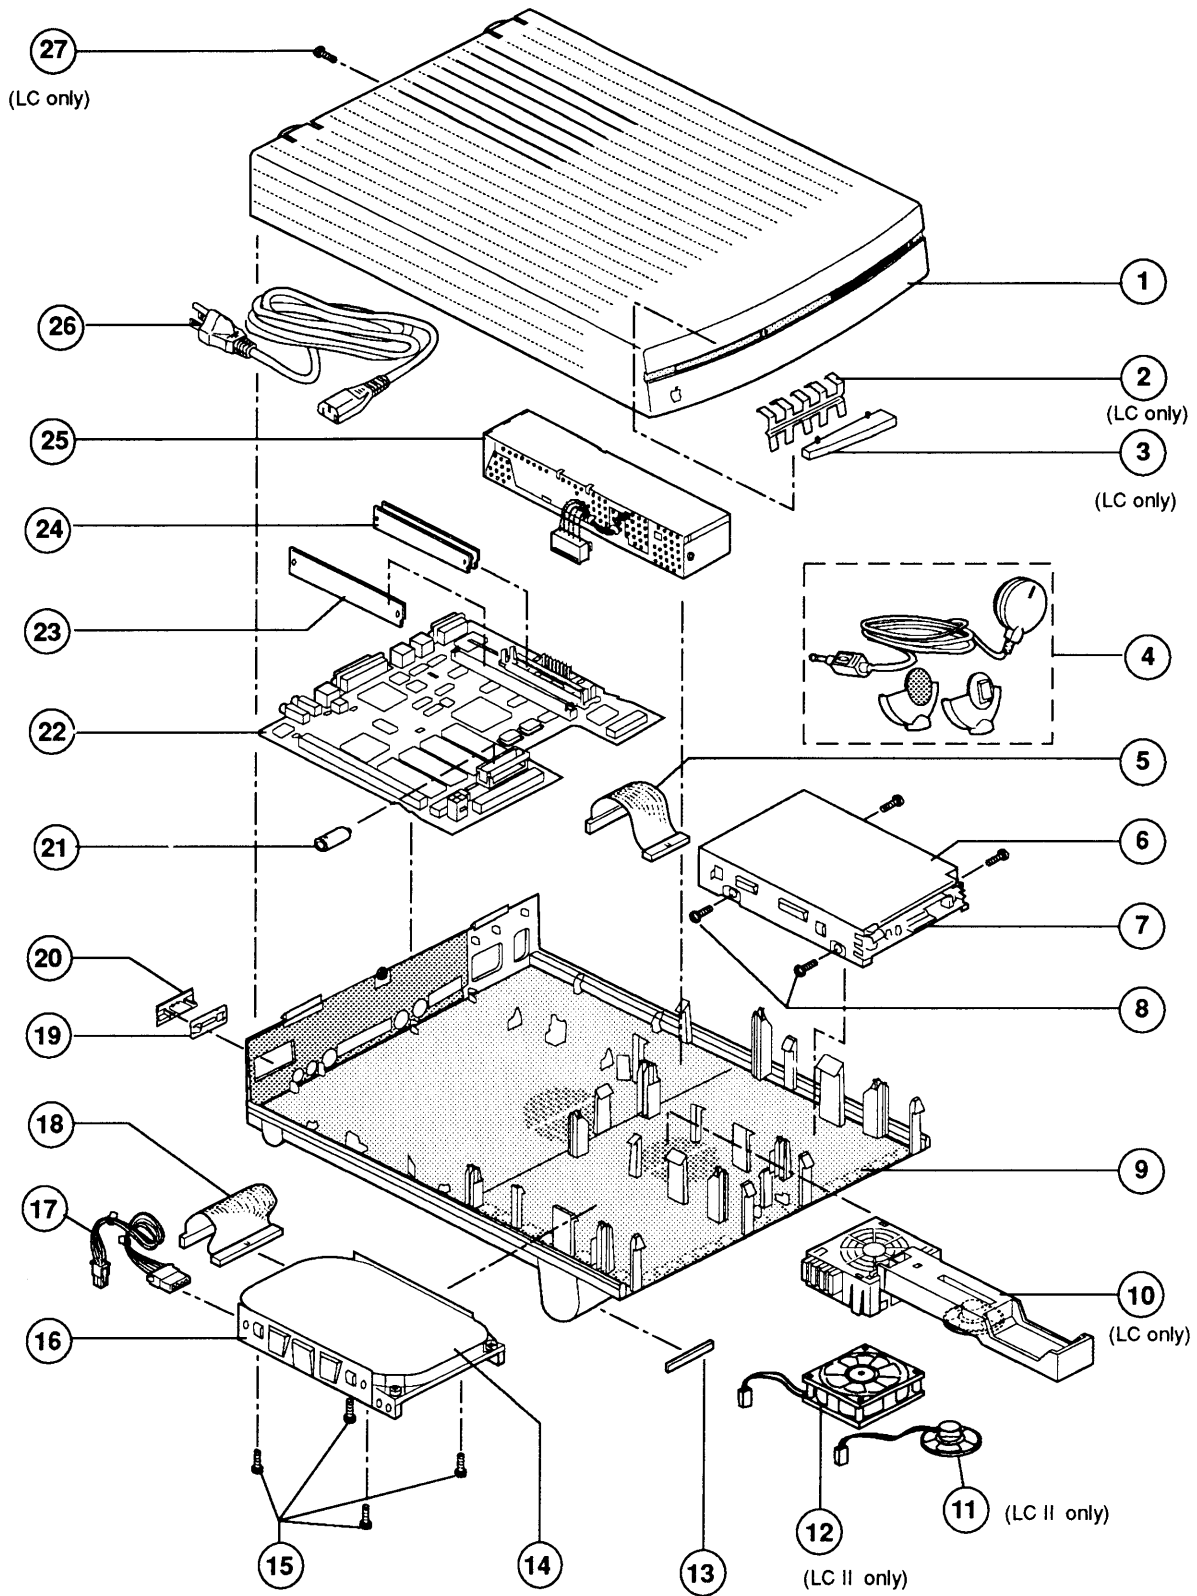

Figure 1 Macintosh LC and LC II – System Exploded View
(Figure 1)
□ MACINTOSH LC and LC II – SYSTEM EXPLODED VIEW (Figure 1)